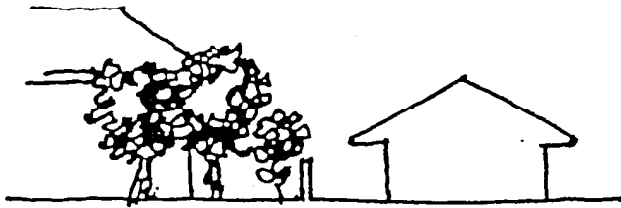

Figure 17
- ☐ Use landscaping to provide transitions in scale where larger buildings are near smaller ones (Figure 17).